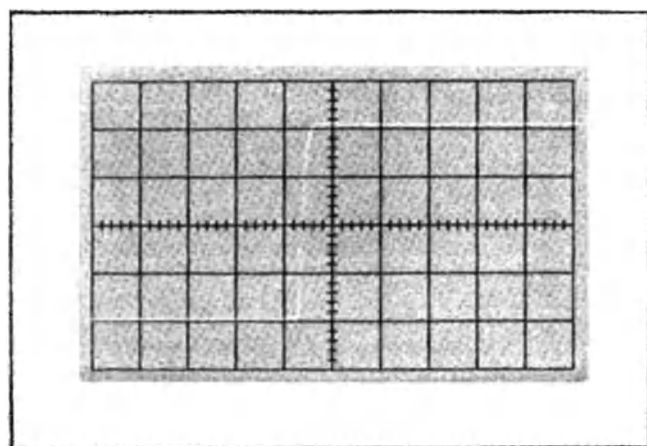

Fig. 5-3. Typical CRT display showing correct high-frequency compensation.
e. CHECK—CRT display for optimum square-wave response similar to Fig. 5-3 with peak aberrations not to exceed  $\pm 2\%$  or  $-2\%$ , or total aberrations not to exceed 3% peak to peak.